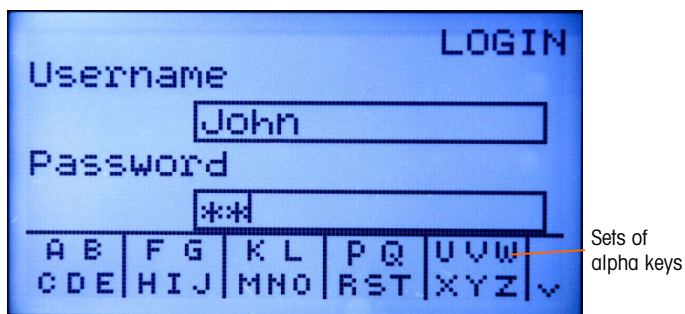

Figure 3-2: Login Screen (Alpha Keys)
1. Press the ENTER key to access the Username entry box. The softkeys change to alpha keys (see Figure 3-2).
4. With focus on the Password field label, press the ENTER key. The softkeys change to alpha keys (see Figure 3-2) and focus moves to the Password entry box.